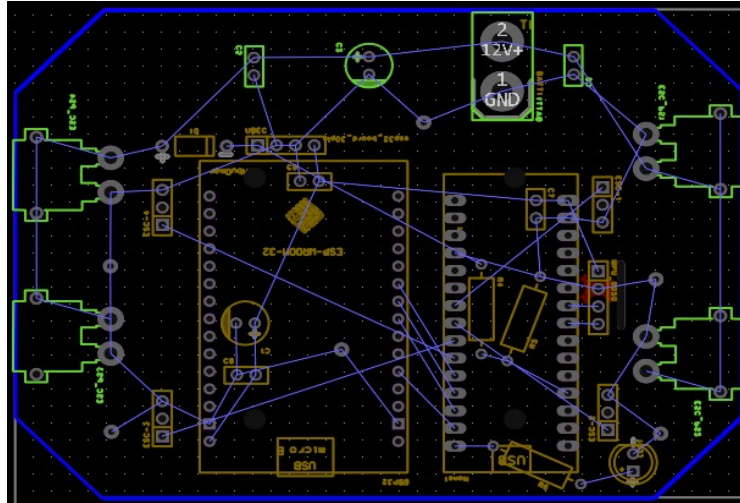

Fig.17. Example of Converting Schematic to PCB & components arrangement
- Drag the components to the desired locations on the PCB as shown in Fig. 17.